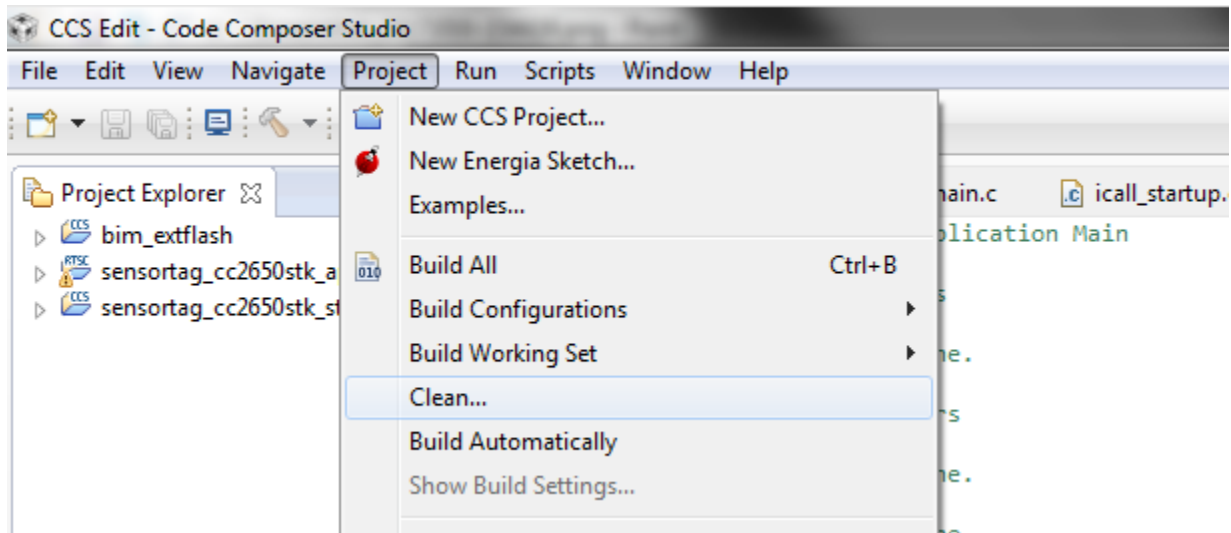

Figure 31, Project - Clean...
- a. Under Projects menu tab, Click Clean. (Figure 31).